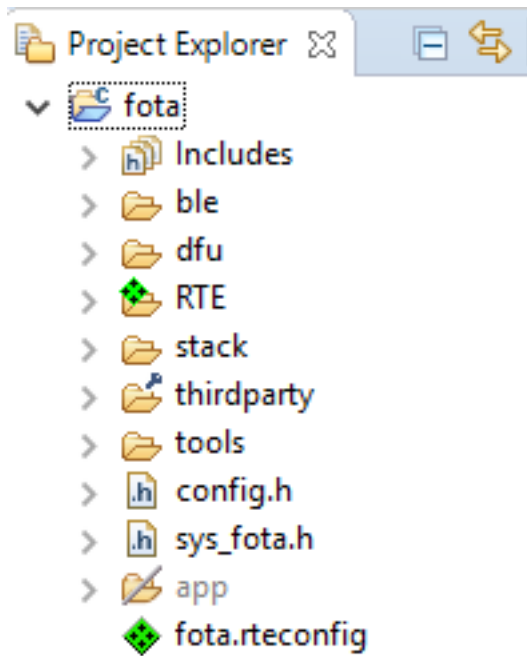

Figure 11. Copying the Project
1. Import the source code project. Navigate to **File > Import > General > Existing Projects into Workspace**, set the **Select root directory:** option with the path to the source code, mark the checkbox **Copy projects into workspace**, and click **Finish**. The project appears in the left side of **Project Explorer**, as shown in Figure 11 on page 21.